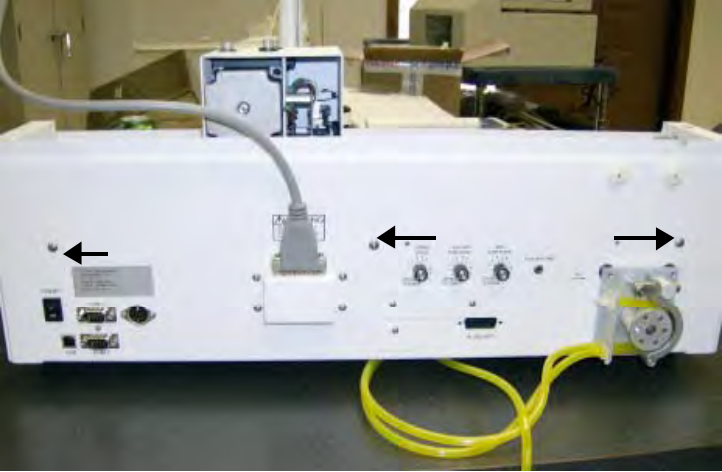

Figure 4-3. Three screws in the electronics panel
- 7. Remove three screws from back of autosampler to release the electronics panel. See Figure 4-3.